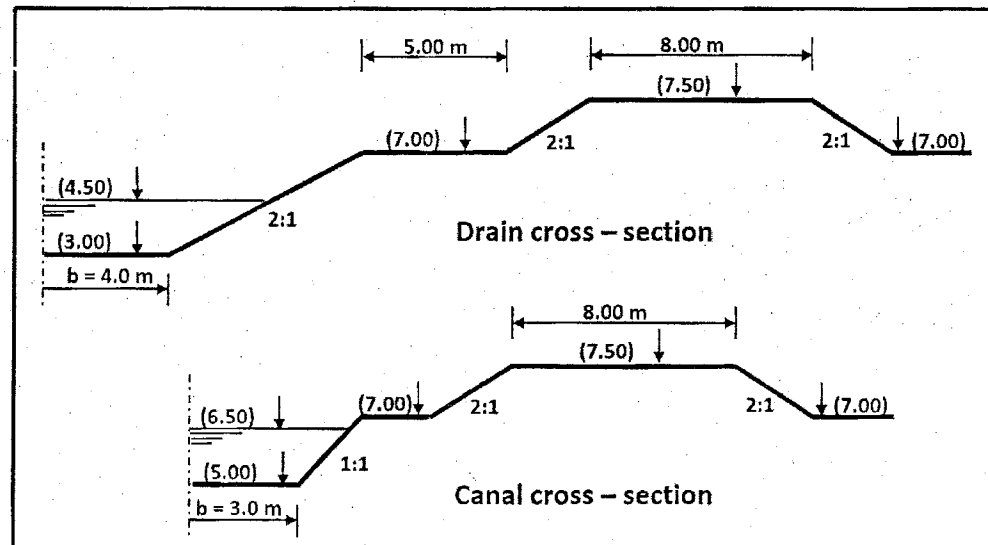

Figure 1
D. It is required to design a circular well type tail-escape (the weir and the orifice only) to discharge 25% of the maximum canal discharge into the adjacent drain. The length of the last reach of the canal is 3.2 km and the emptying time is 36 hrs. The canal maximum discharge is 2 m3/sec. the canal and drain cross-sections are given in Figure 1. (8 Marks)
A. For the shown canal and drain cross-sections in Figure 1, a one vent RC box syphon will be constructed to pass the discharge of the shown drain under the canal.
B. For the shown canal and drain cross-sections in Figure 1, a one steel pipe aqueduct will be constructed to pass the discharge of the shown canal over the drain. The pipe internal diameter is 1.40 m and its thickness is 1.2 cm.